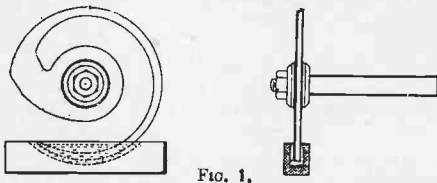

FIG. 1.
inch deep, ½ inch apart, round the circumference of the circle. This will give 105 holes, and a space over. Make a set of pegs to fit the holes fairly tight, ⅜ inch brass wire is suitable; also 20 spacing pegs, as in Fig. 2 to occupy two holes. (A) Fig. 1 is a light bar pivoted at (B) and having at the other end a triangular-shaped piece (C). (A) carries a contact (E) which connects with the adjustable contact (E2) where (C) falls between adjacent pegs, thus actuating a buzzer, which is used to give signals in one's receiving set. To deaden the click, the working edge of (C) is covered with rubber. The spring (F) ensures the bar
Essentially, the rheostat consists of a curved rod of graphite, submerged in water and so mounted that its effective length is varied by rotating an axle which serves at the same time as one of the current leads. The graphite resistor, which has the general form shown in Fig. 1, is sawed out of a plate of Acheson graphite, conveniently $\frac{1}{4}$ in. thick. It is centrally mounted on a stout horizontal axle, so that its rim runs with liberal clearance in a suitably shaped hollow milled in a block of copper. This hollow is filled with mercury, thus providing electric contact between the copper and graphite. Cooling is effected by enclosing the whole in a wooden box thru which water circulates. It is evident that by rotating the axle the resistance interposed between the axle and the copper block may be varied from practically zero up to a maximum determined by the shape and dimensions of the graphite resistor, in particular by the thickness of its "tail." Since this part of the resistor is not subject to any mechanical strain, it may, if desired, be given a very small cross section.
ELECTRICAL MASSAGE MACHINE (Fig. 1)—A suction electro-magnet pulls the applicator forward, which action breaks the magnet circuit. A spring returns the applicator, et cetera.